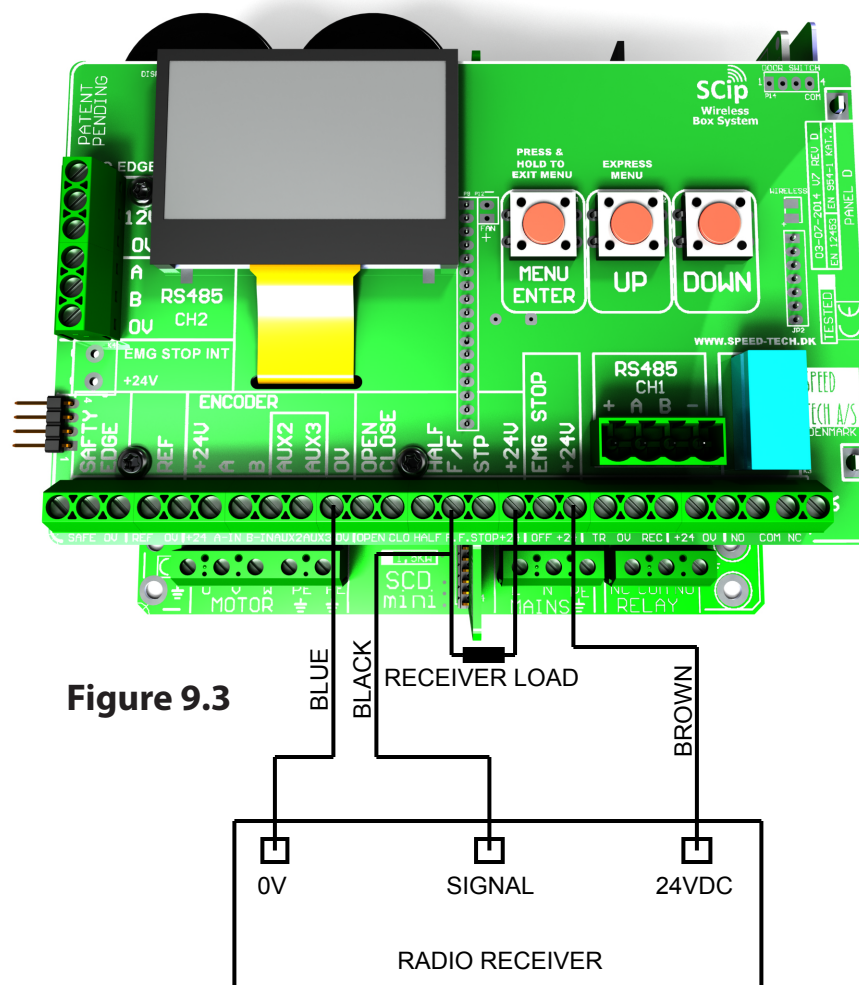

Figure 9.3
- Install wiring per wiring diagram Figure 9.3 page 55.
4. For radio receiver wiring, see Figure 9.3 below.